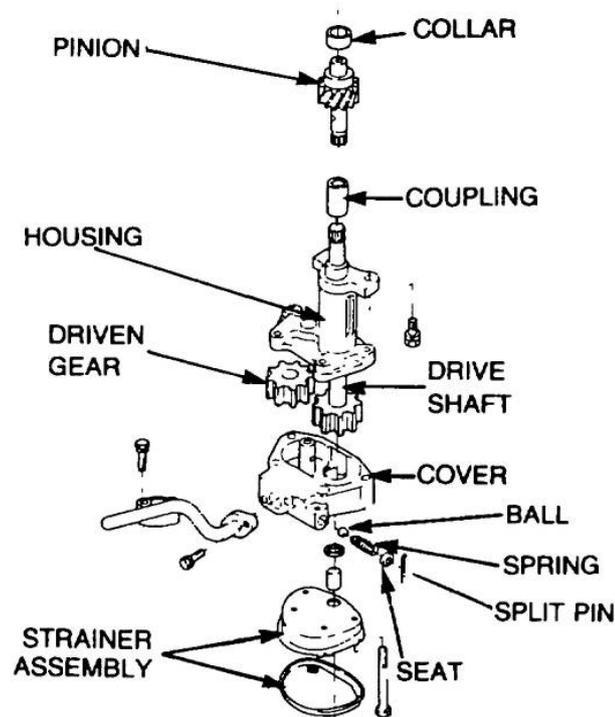

Figure 37 Oil Pump - Exploded View
- a. Remove the wire clip retaining the strainer gauze to the strainer body. Remove the four bolts securing the strainer body and the oil pump cover to the oil pump body (Figure 37).